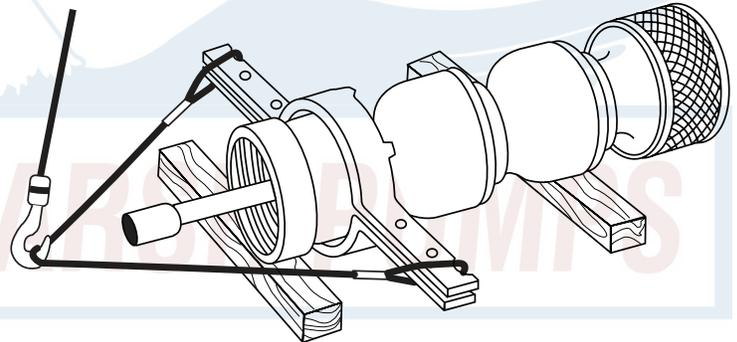

FIGURE 10 – Attaching Lifting Sling (Short Set)
3. Install a friction clamp to the upper end of the bowl assembly beneath a convenient shoulder. Attach a cable sling to the friction clamp far enough out on the ears to allow removal of the sling after the friction clamp is resting on the setting beams. Also, make sure that the sling is long enough for the load hook to clear the shaft when the bowl assembly is up righted. See Figures 10 and 11. Care must be taken to prevent the cable from wrapping around the shaft to prevent the bending or shaft or oil tubing.